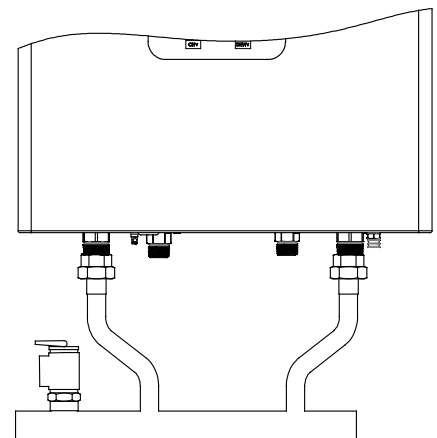

Figure 6.2: Low Loss Header (Mandatory for C-140)
**Low Loss Header** – A copper pipe assembly fitted on to the heating loop that connects the boiler piping to the system piping. (See Fig. 6.2). Supplied with Model C140 only. May be purchased separately as an option for C95. Pressure relief valve must be on CH RETURN fitting.